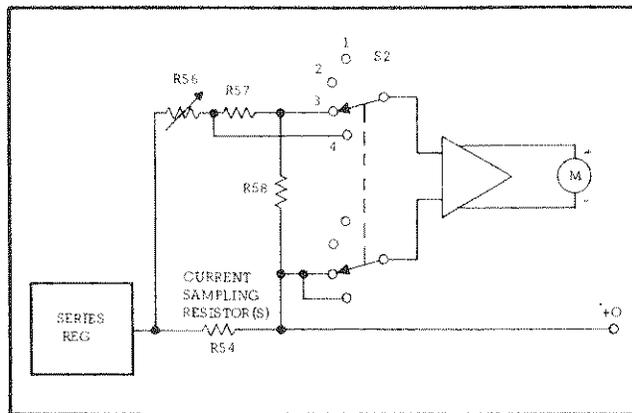

Figure 4-4. Ammeter Connections, Simplified Schematic
4-43 As illustrated in Figure 4-4 with the METER switch in the high current position (3) the voltage drop across R58 is applied to the meter amplifier and the meter indicates the output current which flows through the sampling resistor network. For low values of output current, the METER switch can be set to position 4 and the voltage drop across R57 and R58 is applied to the meter amplifier.